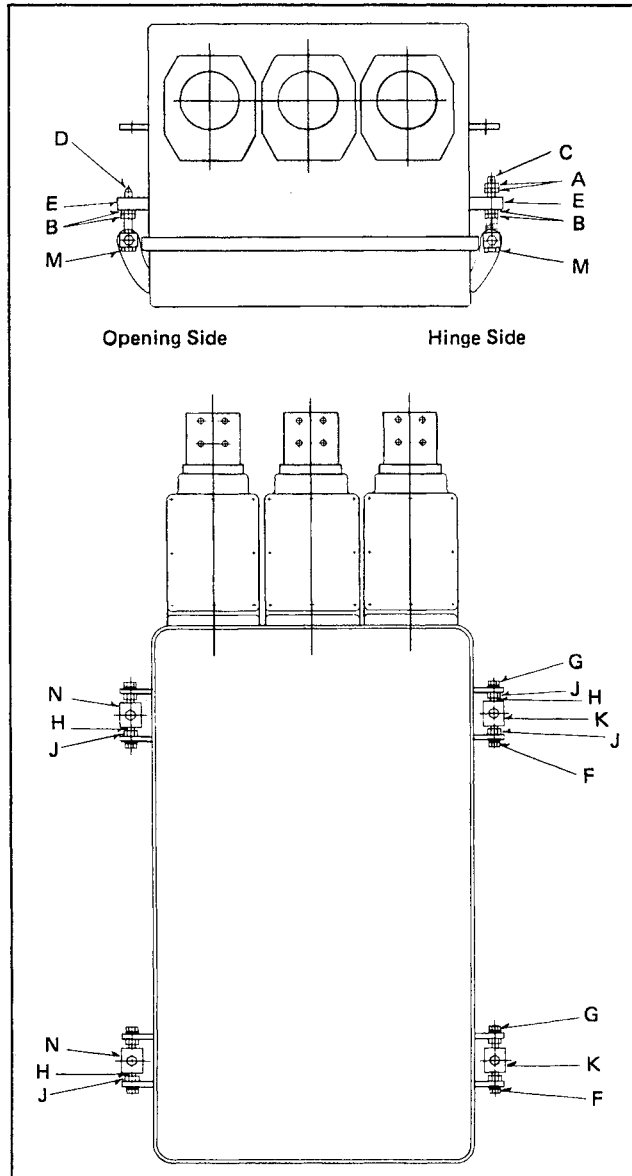

Fig. 38 Sliding Hinge Details: CMD Network Protectors
1. The cover may be removed from the housing so that the work may be done more readily since no centering adjustments are disturbed by removing the cover. Referring to Fig. 38, take out the cotter pins and the stop nuts "A" on the bolts "C" on the hinged side. The hinge bolts should be loosened first about 1/2 inch so